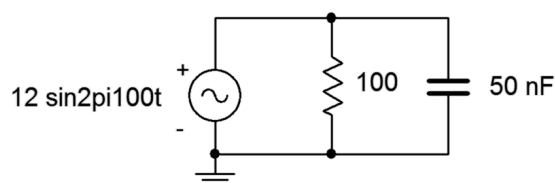

Figure 3.6
11. Determine the three branch currents for the circuit shown in Figure 3.6 and draw their phasor diagram.